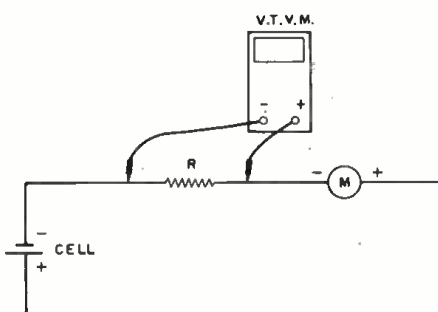

Fig. 2. Voltage reading across a known series resistor and quick calculation can be used to determine full-scale current.
Start with the highest-value resistor (R) and a single cell placed in series with the meter, as shown in Fig. 2. If the meter terminals are marked as to polarity, be sure to connect accordingly. If
Note the mark and determine its fraction of full scale. In other words, if there are 100 divisions on the scale and the pointer is resting on the twentieth, the fraction would be  $\frac{2}{100}$ , or  $\frac{1}{50}$  of full-scale reading. Leave the meter connected and use a v.t.v.m., as shown in Fig. 2, to measure the voltage drop across the resistor. Since this drop will be small in most cases, take care to zero the v.t.v.m. properly and use the lowest available voltage scale that will give a substantial reading to insure accurate measurement.